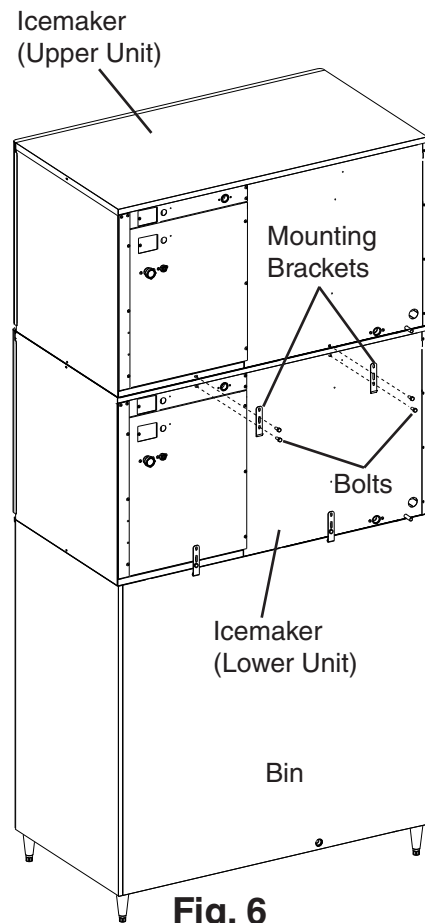

Fig. 6
- 6) Secure the upper unit to the lower unit using the 2 mounting brackets and the bolts provided. See Fig. 6.